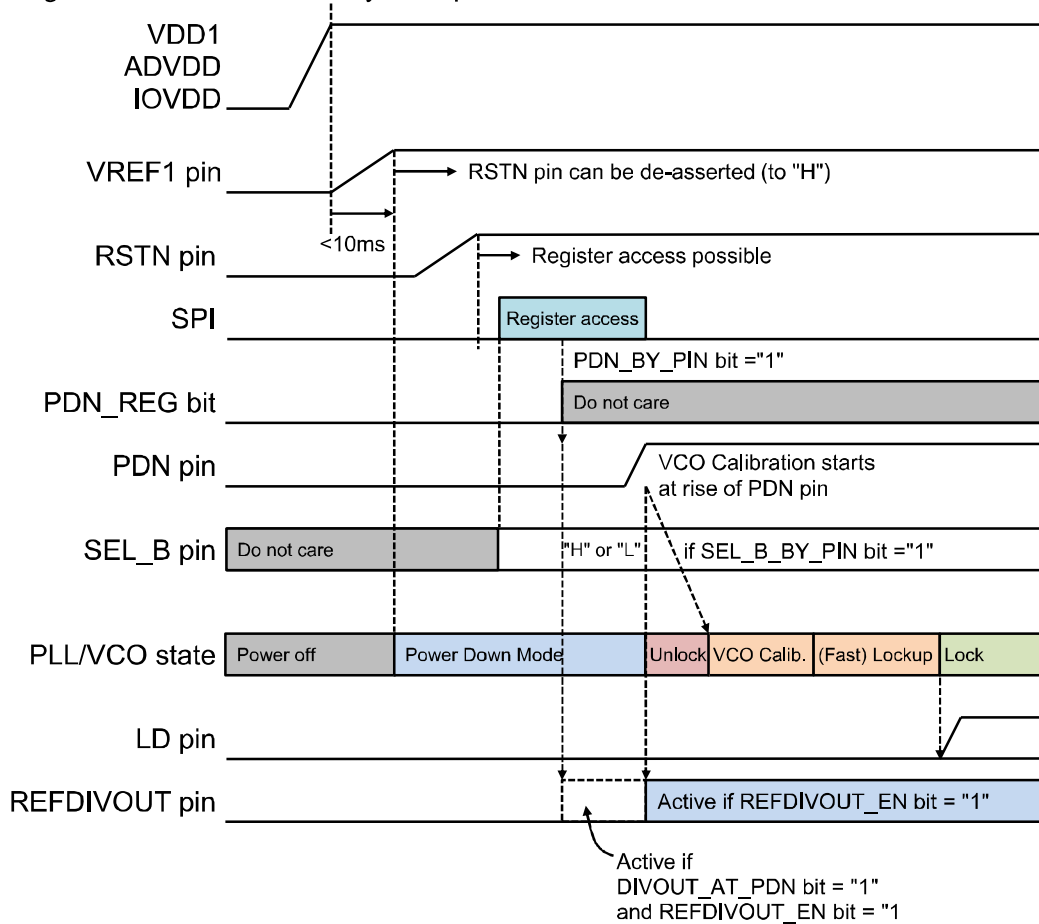

Figure 12.2 Power-up Sequence when Controlling Power Down by PDN pin
- * 19. Write "1" to PDN_BY_PIN bit in the timing shown in Figure 12.2. PDN_REG bit is "Do not care" when PDN_BY_PIN bit is "1".